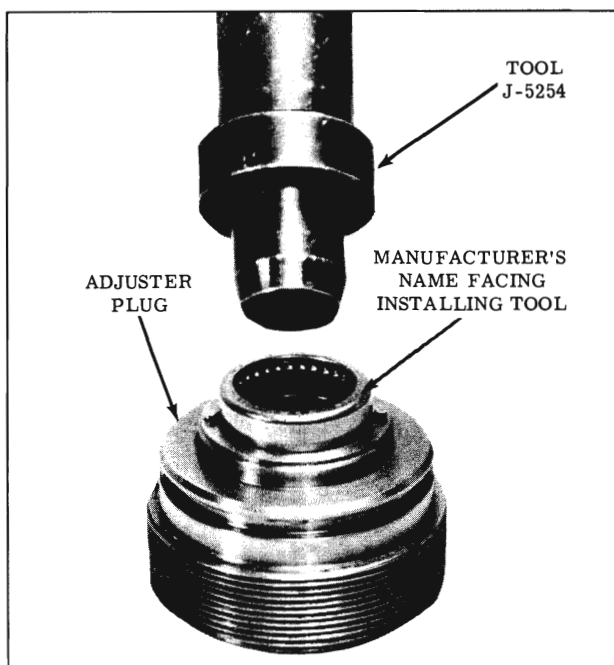

Fig. 4-259 Installing Bearing
1. If the needle bearing was removed, place new needle bearing over Tool J-5254 with the bearing manufacturer's identification against the tool and drive or press bearing until it is flush with the surface of the seal bore. (Fig. 4-259)